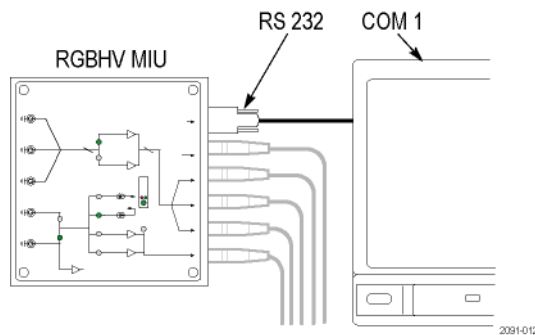

Figure 2-18: Connecting the RS-232C cable between the MIU and the VM Series system
3. Connect the RS-232C cable between the RGBHV Measurement Interface Unit and the COM1 port on the VM Series system. See Figure 2-18.